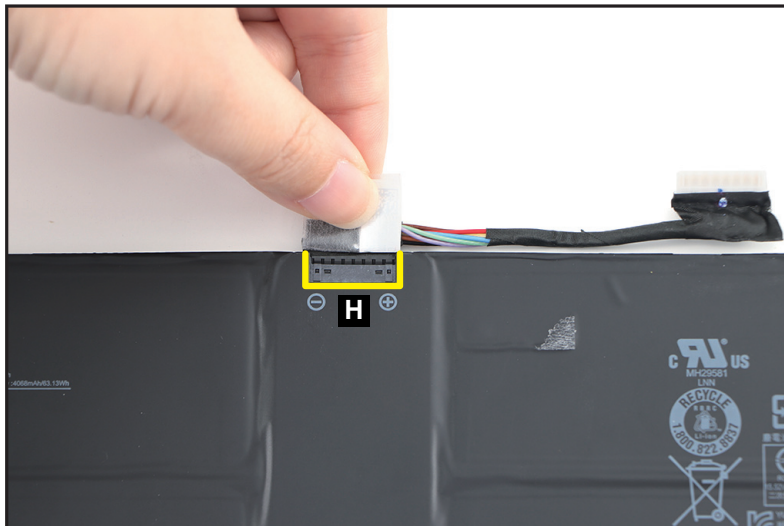

Figure 1-12. Battery Pack Removal
6. Disconnect the battery cable from the battery connector (H) (Figure 1-12). Then remove the battery cable.